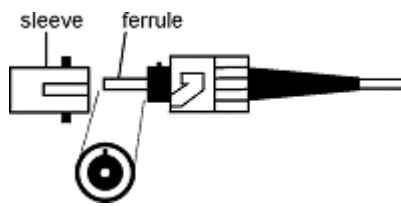

Figure 1: Connector Cleaning (connector type can vary)
1. Blow the sleeve with filtered compressed air (Figure 1)